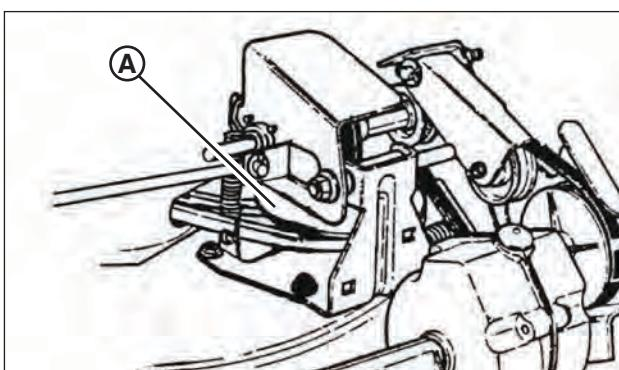

Figure 17: Location of the drive disc
**NOTE:** Do not spill grease or oil onto the surface of the drive disc (**A**, **Figure 17**).